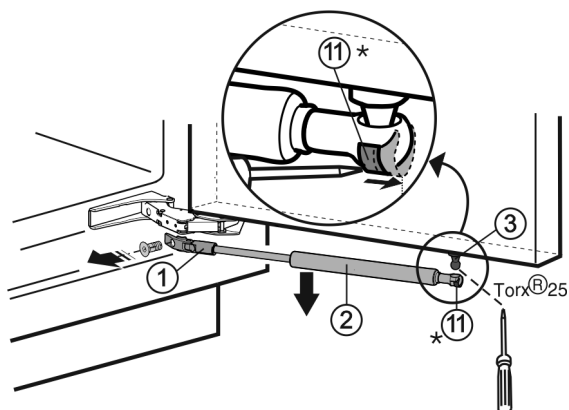

Fig. 8
- Use a screwdriver to slide the tension spring Fig. 8 (11) outwards.*
- Remove the soft stop mechanism Fig. 8 (2) by pulling it downwards.
- Unscrew the retainer Fig. 8 (1).
- Unscrew the ball stud Fig. 8 (3) (Torx® 25).
- Slide the tension spring Fig. 8 (11) inwards again.*